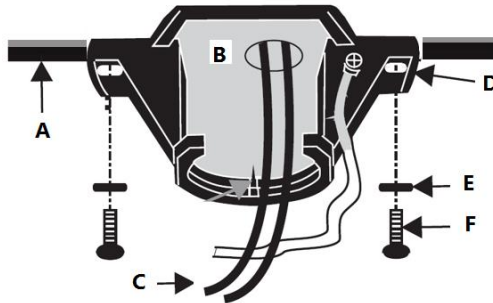

Fig. 6
Pass the power supply wires and ground wire (C) from the ceiling outlet box (B) through the center of the ceiling mounting bracket (D). Install the ceiling mounting bracket (D) on the outlet box (B) with the mounting screws (F) provided with the outlet box and washers (E) provided with fan. **Fig. 6**